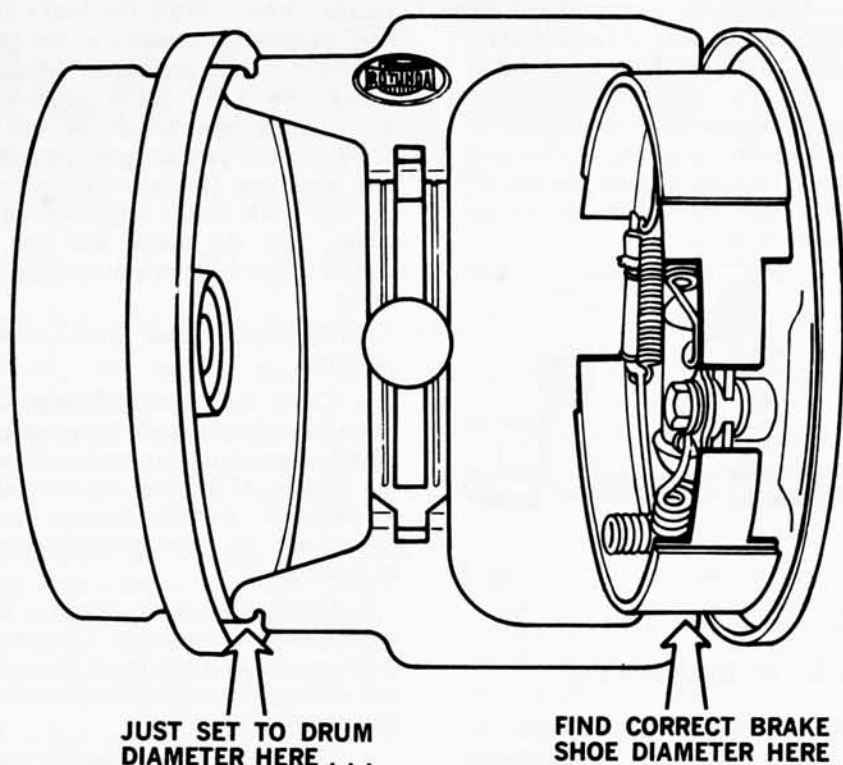

FIG. 10 —Using Tool HRE-8650
1. Using Rotunda Tool HRE 8650, (Fig. 10) determine the inside diameter of the drum braking surface.
2. Reverse the tool as shown in Fig. 10 and adjust the brake shoe diameter to fit the gauge. Hold the automatic adjusting lever out of engagement while rotating the adjustment screw, to prevent burring the screw slots. Make sure the adjusting screw rotates freely. If necessary, lubricate the adjusting screw threads with a thin, uniform coating of CIAZ-19590-B Grease.